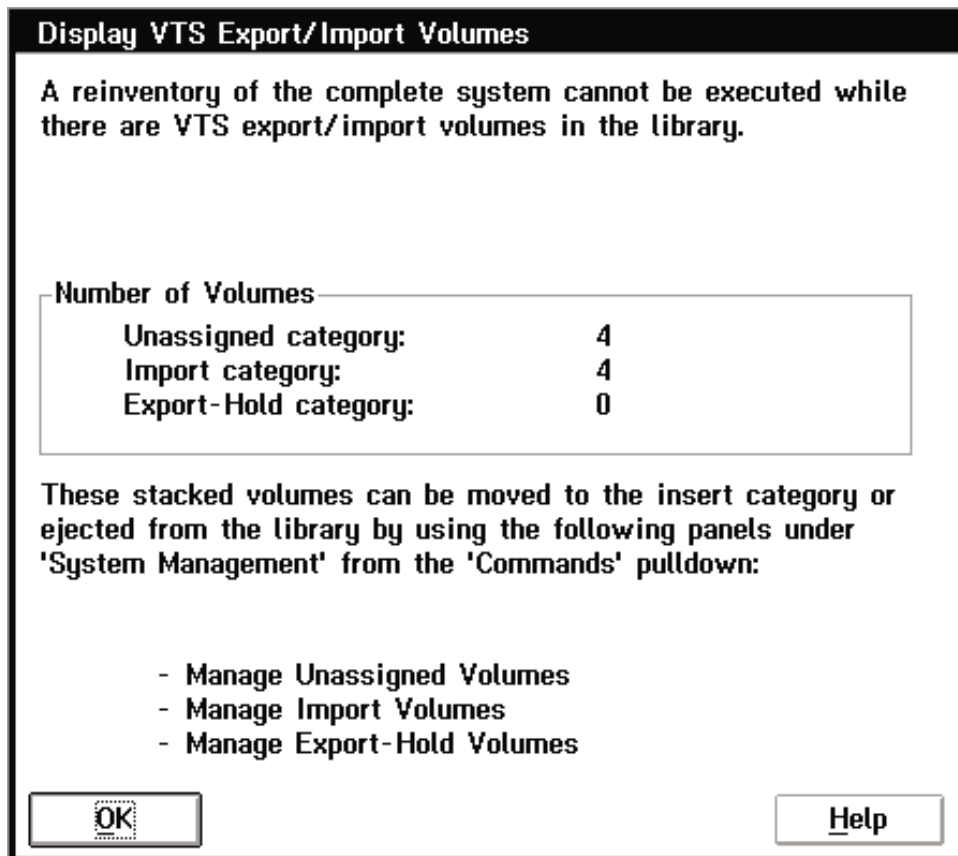

Figure 100. Display VTS Export/Import Volumes Window
**Note:** If **Re-inventory Complete System** is selected and there are VTS Import or Export stacked volumes in the Unassigned, Import, or Export-Hold categories, then the panel shown in Figure 100 will be displayed and the operator will not be allowed to continue with the reinventory until the Import/Export volumes are ejected from the library. The reinventory is blocked to prevent the possible destruction of important Exported data. The operator should exit this panel and then select the appropriate panel(s) under the **Commands** pulldown under **System Management** on the LM Operator Panel and eject the indicated volumes. When all the Import/Export volumes are removed from the library, the operator can then select **Reinventory Complete System** and continue.
Figure 100 shows the Display VTS Export/Import Volumes Window.